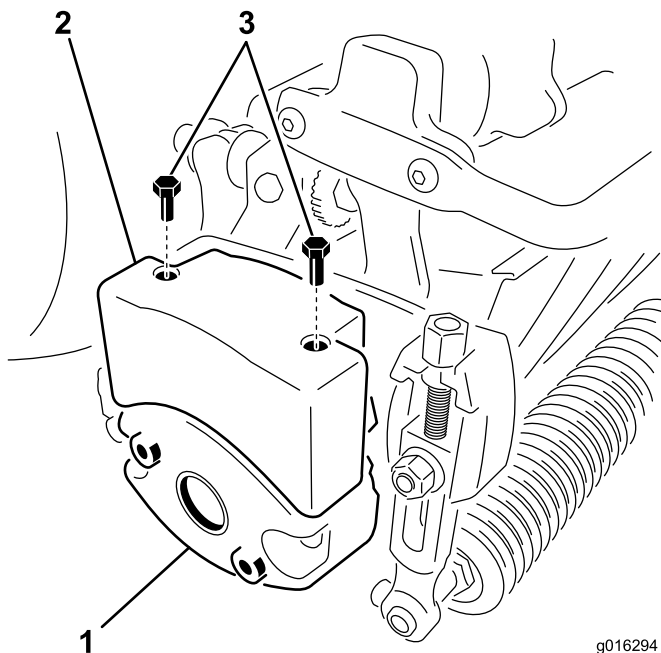

Figure 11
4. Remove the 2 bolts securing the weight to the side of the cutting unit (Figure 11).
6. Install an upper weight to the cutting unit weight using 2 hex head screws (Figure 11).